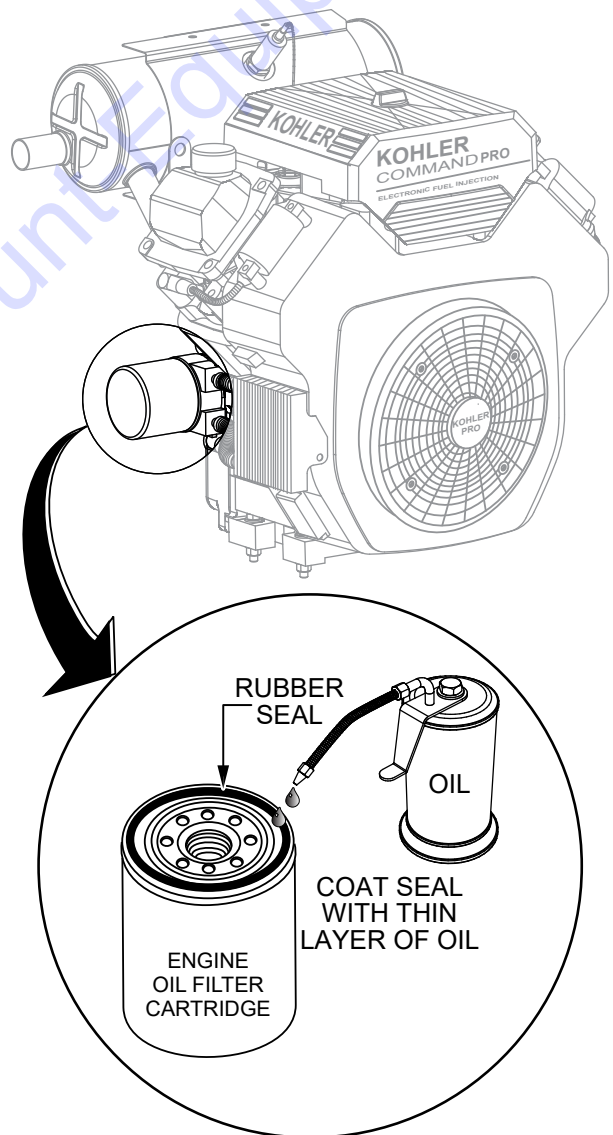

Figure 18. Oil Filter
1. Replace the engine oil filter (Figure 18) every oil change or 100 hours. Be sure to coat the seal of the new oil filter with clean engine oil.